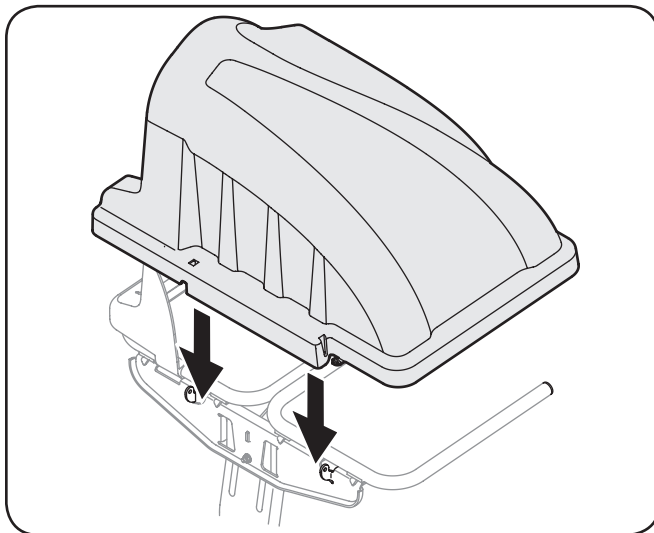

Figure 4-9
- Install the bagger cover onto the bag support assembly, as seen in Figure 4-9. The plastic cover goes inside of the two mounting tabs.